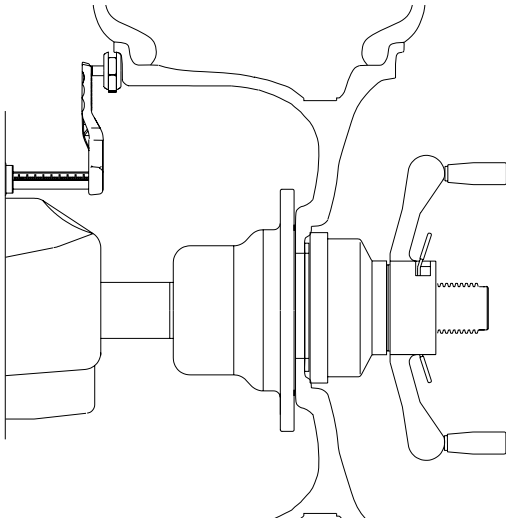

Figure 22
4.5.1 Rim Distance (offset) - Move the rim offset arm to the edge of the rim, touch the pointer to the rim edge as illustrated in Figure 22 and hold steady for about a second. The beeper will sound when the distance values are calculated and entered automatically. Return the arm to its fully in and down position on the balancer. Do not allow the measurement arm to "dangle" down in front of the balancer.